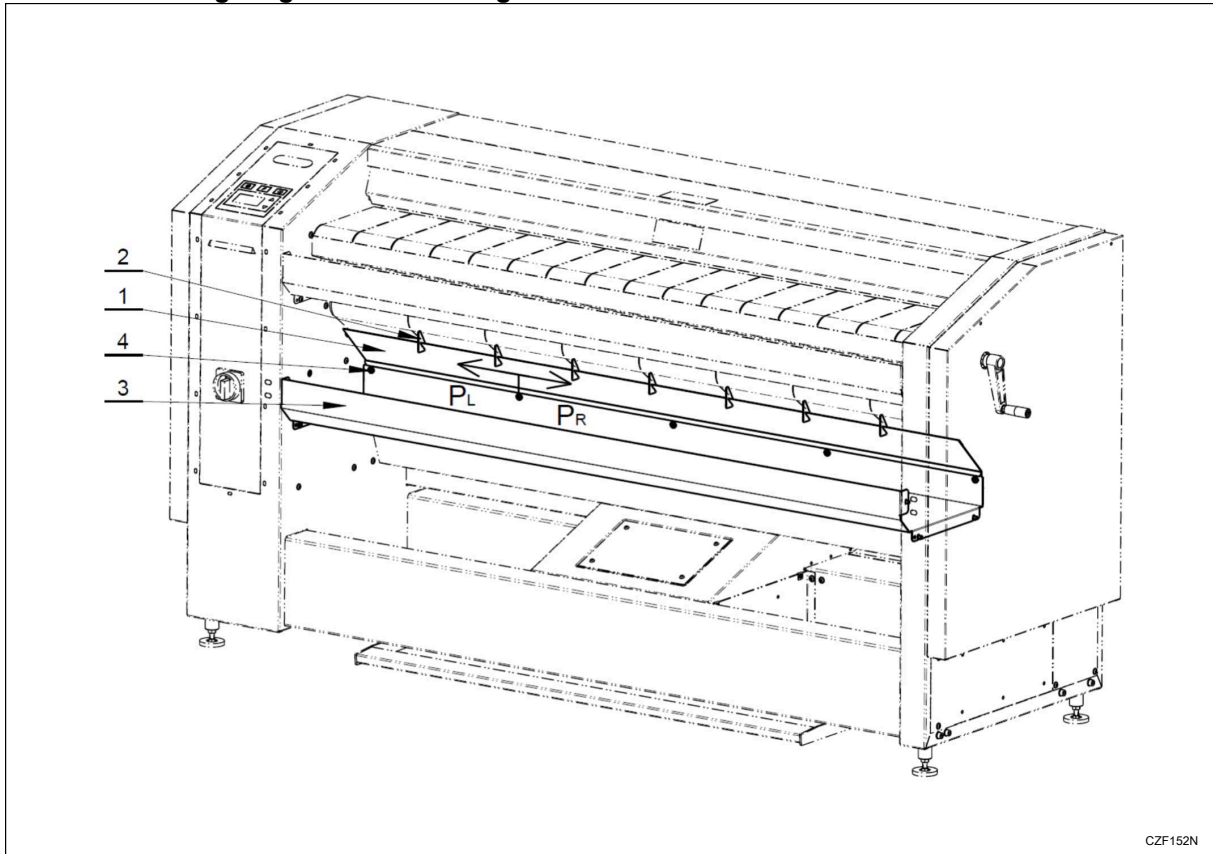

Figure 42
- Clean (vacuum clean) the suction area of the fan – after the disassembly of the screws (2) and the service cover (1) - refer to *Figure 42*.
- The screws (2) are special safety screws preventing the disassembly by unauthorised persons. The special wrench forms a part of the machine accessories.
- If the belt running-in is incorrect, the correct position of the plate (1), guiding fingers (2), and outlet gutter (3) can be adjusted in a limited scope in directions (P) after loosening the screws (4) – refer to *Figure 42*.
- After establishing the correct position of the plate (1), it is necessary to fix the setting by tightening the screws (4) – refer to *Figure 42*.